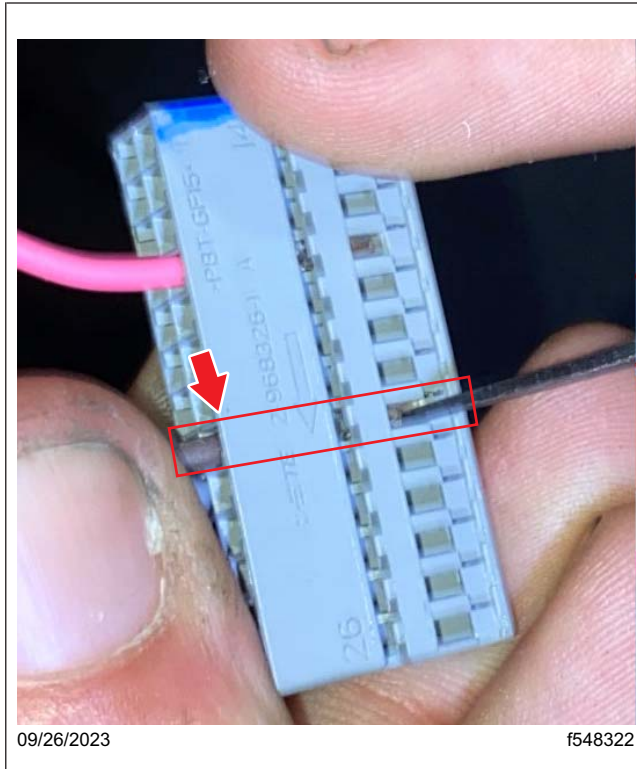
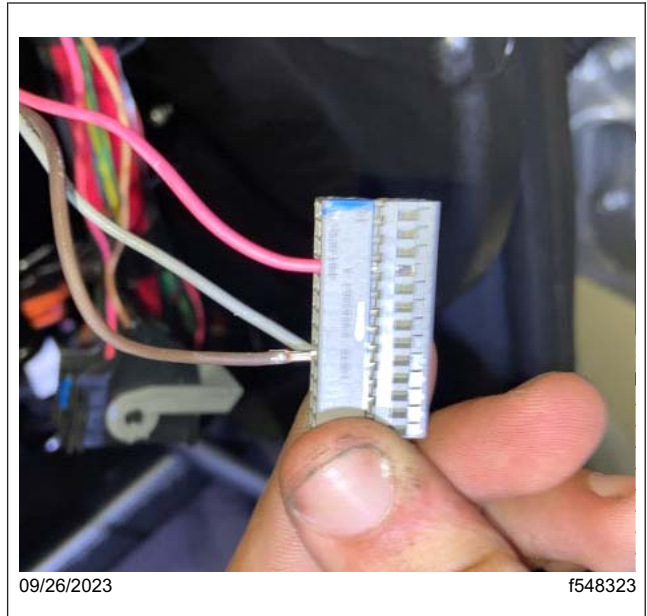

Fig. 54, Releasing the Locking Tab for the Brown Wire in Cavity 21
Fig. 55, Removing the Brown Wire from Cavity 21
- 13.11 Locate the brown wire in cavity 21 of the gray terminal bank. Remove this brown wire by gently pushing down on the locking tab with a terminal pin tool and pulling the wire out of the gray terminal bank. See Fig. 54 and Fig. 55.